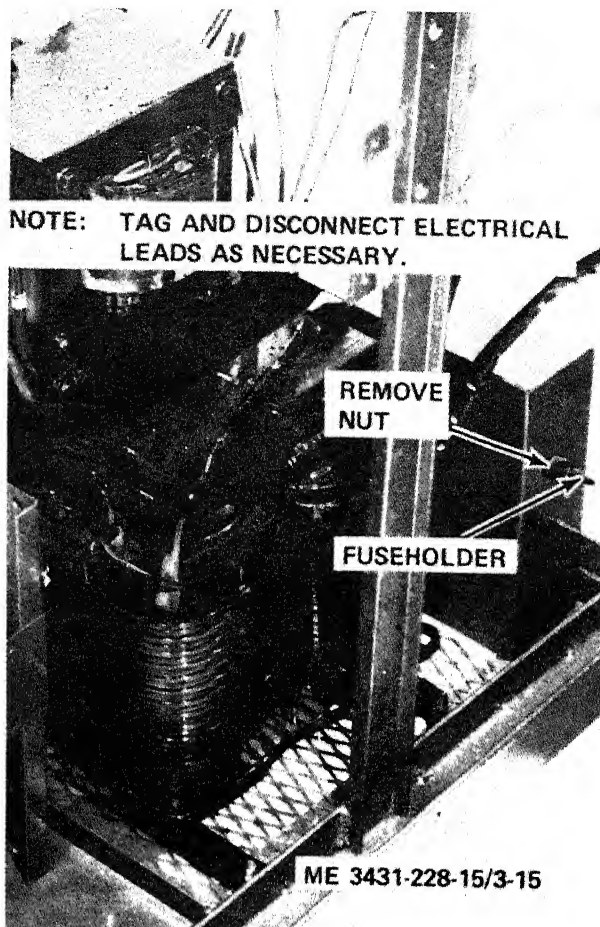

Figure 3-15. Fuseholder, removal and installation.
(1) Remove the welder top and the housing (para 3-20).
(2) Refer to figure 3-15 and remove the fuseholder.
(1) Refer to figure 3-15 and install the fuseholder.
(2) Install the top and housing on the welder (para 3-20).